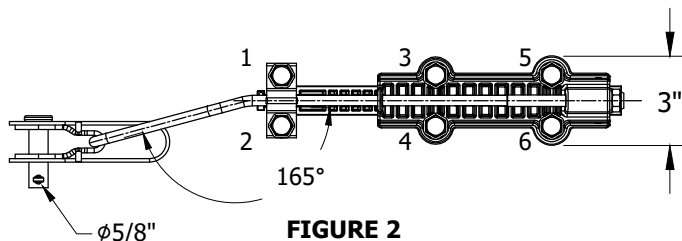

FIGURE 2
- (A) TIGHTEN BOLTS TO MANUFACTURER SPECIFICATIONS UNTIL BOLT HEAD TORQUES OFF.
- (B) THE PROPER BOLT TIGHTENING SEQUENCE IS AS FOLLOWS:
1. REFER TO BOLT NUMBERS 1-6 ON **FIGURE 2** FOR CORRECT BOLT IDENTIFICATION.